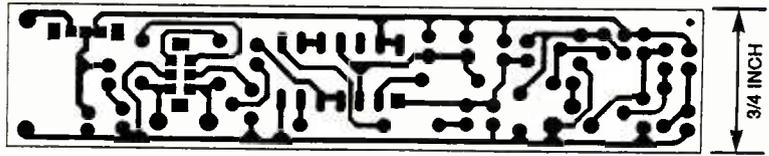

Fig. 2. Use this template to etch your own PC board for the Tape-Recorder Switch.
**Construction and Checkout.** The author's prototype for the Tape-Recorder Switch was built on a small PC board. You can build the circuit on a perforated construction board instead, but a PC board makes the project more compact. A pre-etched and drilled PC board is available as part of a complete kit of parts from the source mentioned in the Parts List. If you would like to etch your own PC board, a foil pattern is provided in Fig. 2.